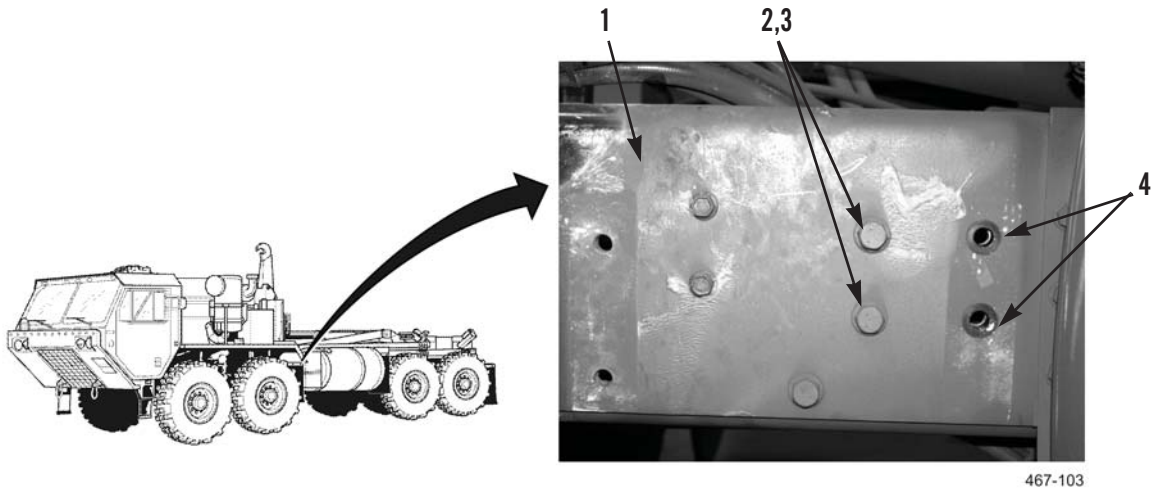

Figure 1. Remove and Replace Frame Bolts.
1. Install two bolts and nuts removed from stowage box in two holes (Figure 1, Item 4) on frame (Figure 1, Item 1).
2. Remove two bolts (Figure 1, Item 2) and nuts (Figure 1, Item 3) from frame (Figure 1, Item 1).